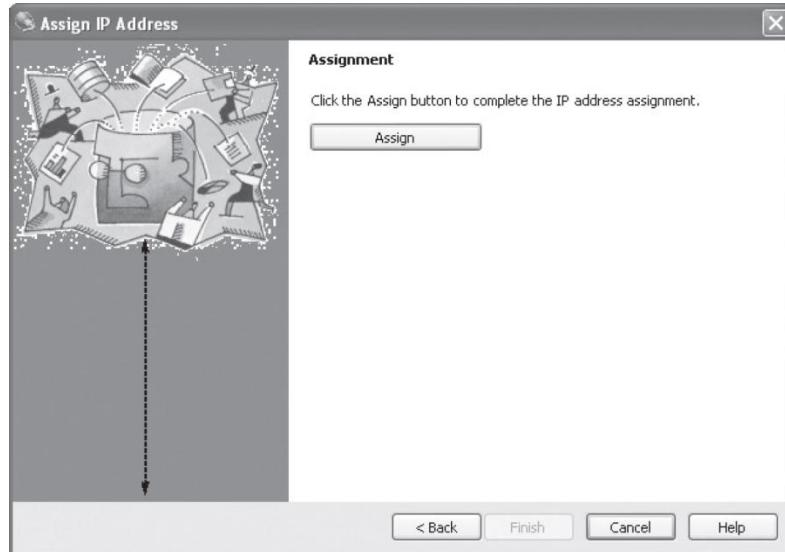
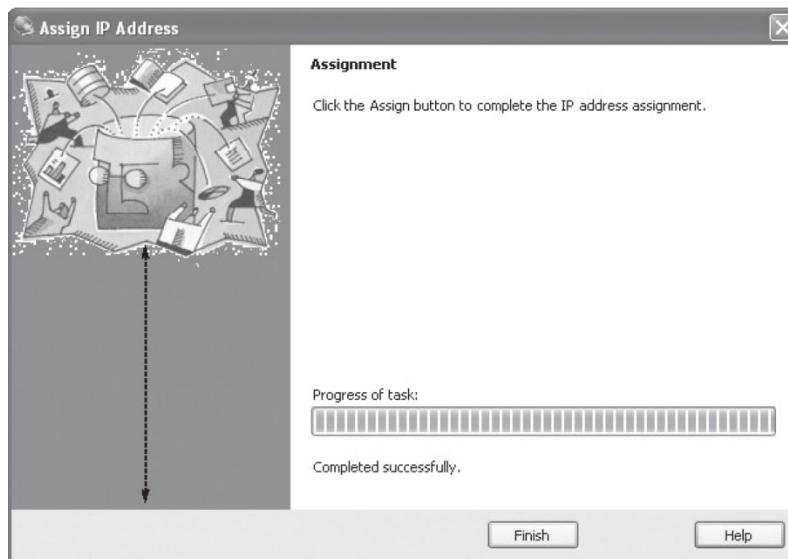

Figure 26: Assignment screen with the Assign button
Figure 27: Assignment screen with "Progress of task:" bar
- When the "Assignment" screen appears (as shown in figure 26) press the **Assign** button to begin the process of assigning the new IP address. The Assignment status screen will show the progress of the current task, as seen in figure 27.